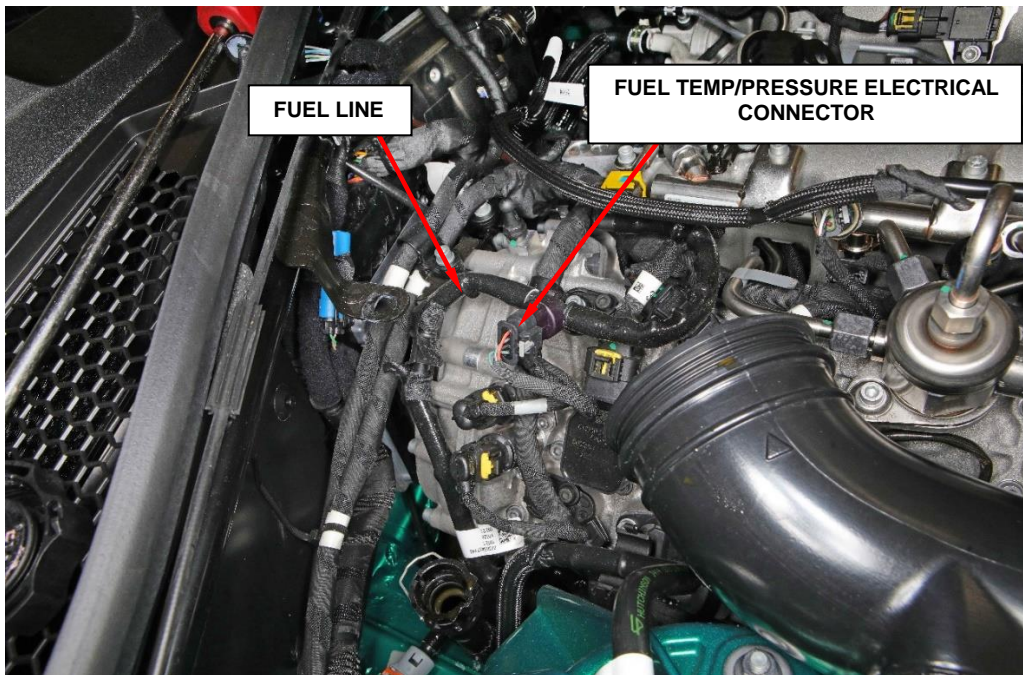

Figure 19 – Fuel Line
13. Disconnect the electrical connector from the fuel temperature-pressure sensor (Figure 19).